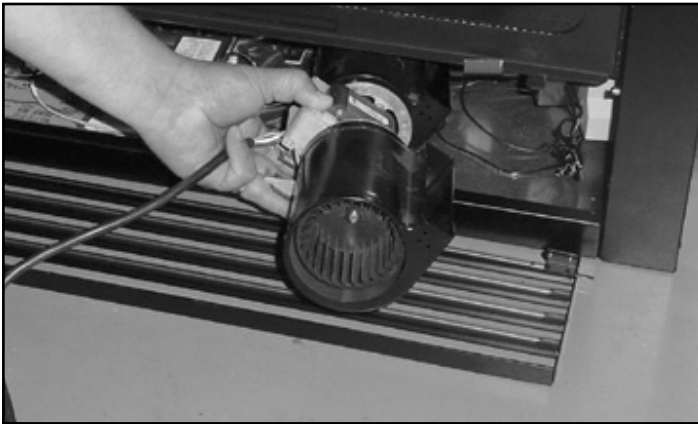

Figure 3 Insert the Fan into the Appliance (avoiding wires)
- Insert the fan into the appliance with the air slots facing up. Insert the end first to the right side of the valve assembly. Be sure to avoid pulling any of the wires out of place. See Figure 3.